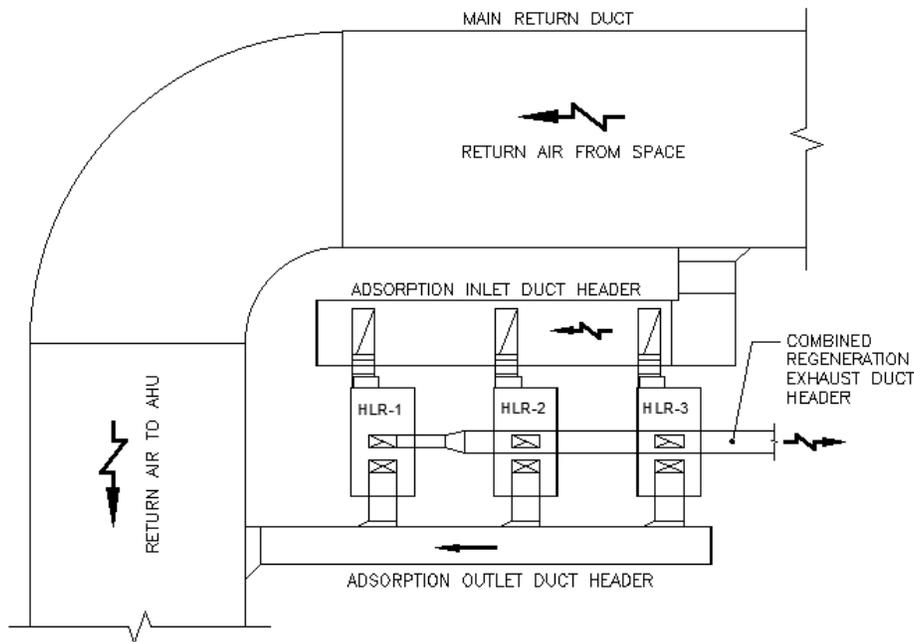

Figure 7.2: HLR Cluster – (3) HLR-14M units in cluster configuration providing clean air to a common return air duct system.
Combined duct headers in adsorption mode should be sized for full combined adsorption airflow (HLR Modules operating in adsorption mode concurrently). See **Figure 7.2** showing (3) HLR Modules serving a common ventilation system via return air and clean air duct headers.